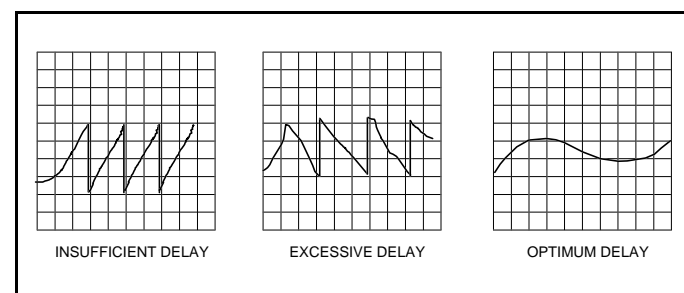

Figure 11 - Delay Waveforms
- Adjust the test delay to "match" the equipment and propagation delays to/from the REFERENCE Site/Channel. It is usually in the order of several milliseconds, and can be found empirically by "removing the sawteeth" resulting from the 360 degree wrap-around as shown in Figure 11. Record the delay value obtained in the Test Delay column for the REFERENCE Site. Test Delays must now be calculated for the remaining sites per the instruction for the Test Delay column in Table 2.